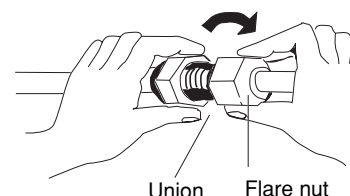

Fig. 5-5
- (3) For proper connection, align the union tube and flare tube straight with each other, then screw in the flare nut lightly at first to obtain a smooth match. (Fig. 5-5)